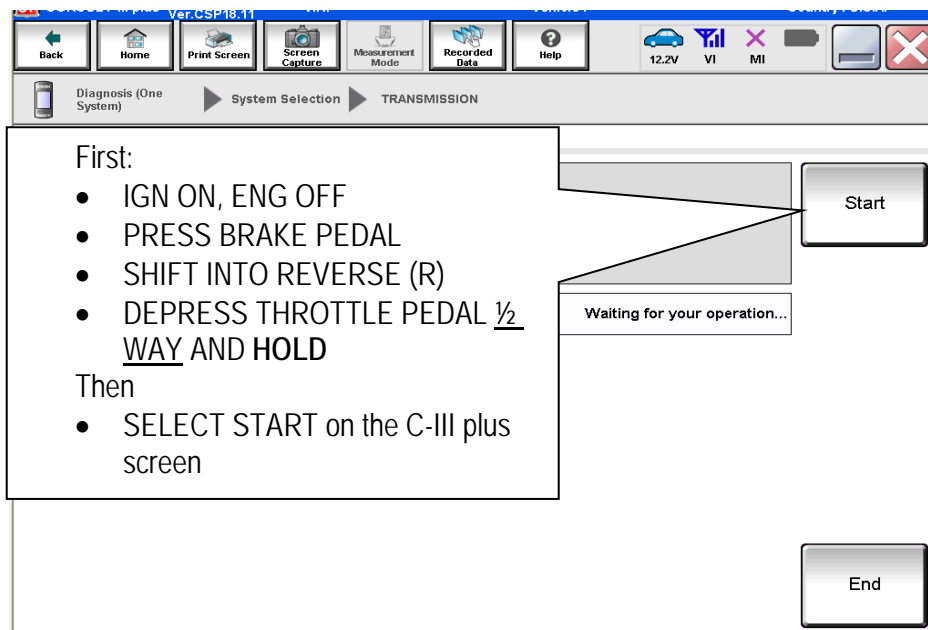

Figure10
18. Before selecting Start, follow the directions in Figure 10.